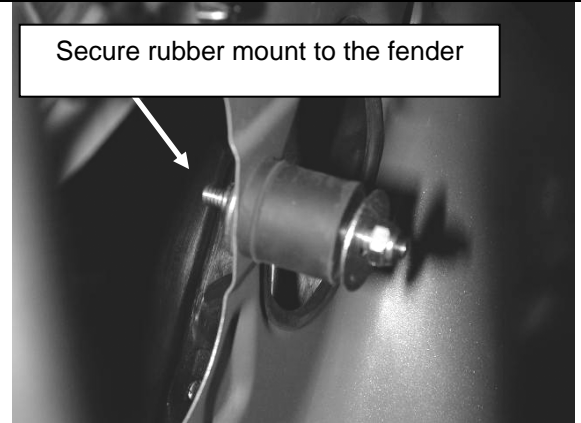

Fig. 8
- d. Install the rubber mount assembly. Secure to the fender with a washer and serrated nut. Loosely attach the washer and serrated nut to the engine bay side of the rubber mount. (Fig. 8)